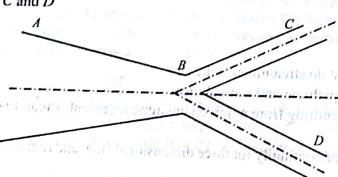

Figure 13.16
- 13.10 Fluid flows through a pipeline which contracts from 45 cm diameter at A to 30 cm diameter at B and then branches into two pipes C and D (Fig. 13.16). The diameter of the pipe C is 15 cm and diameter of the pipe D is 20 cm. If the velocity at A be 1.8 m/s and that at D be 3.6 m/s. Determine